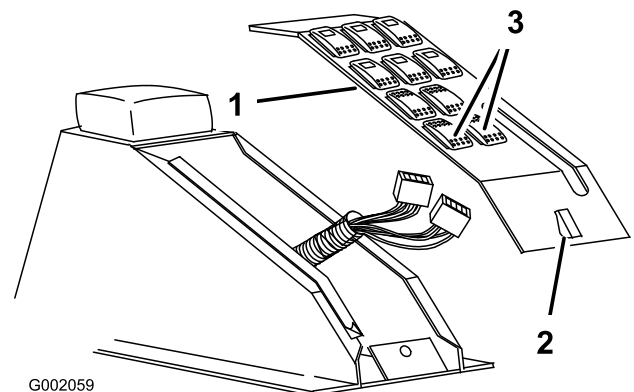

Figure 30
2. Release the latch and remove the switch panel assembly from the center console assembly (Figure 30).